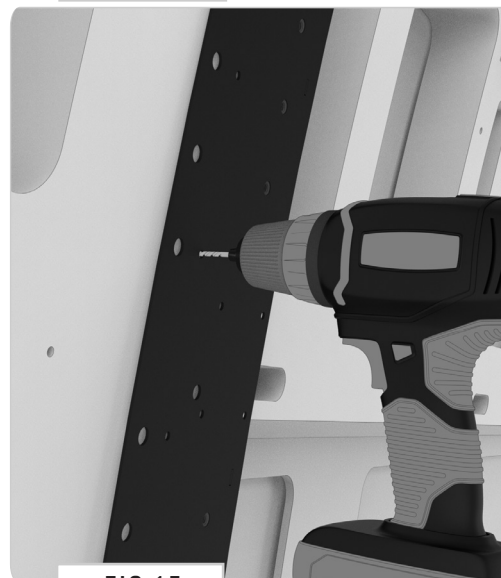

FIG 15
5.2 Securing the Passenger Side Rear Bracket: Double-check your measurements against your marks and proceed to secure the **Passenger Side Front Bracket** by drilling through all of the **Rivet Holes** with a **3/16"** or similar sized **Drill Bit** (**FIG 15**) and painting with a rust preventative paint.